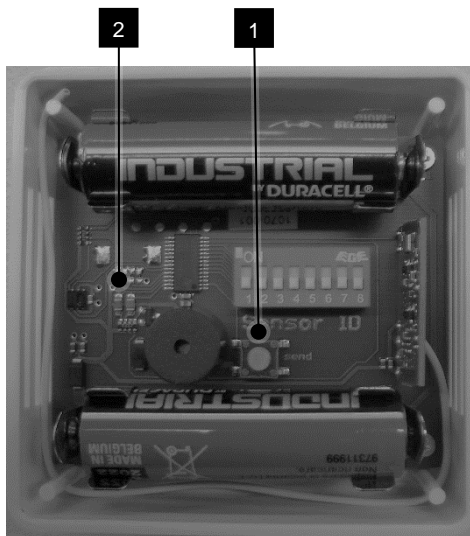

Fig. 9: Check functionality
3. → Check the wireless sensor system for functionality. To do this, press the button (Fig. 9/1).
- ⇒ If the LED (Fig. 9/2) lights up briefly, the wireless sensor system is ready for operation. If the wireless sensor system emits a short signal tone at regular intervals during operation, replace the batteries.